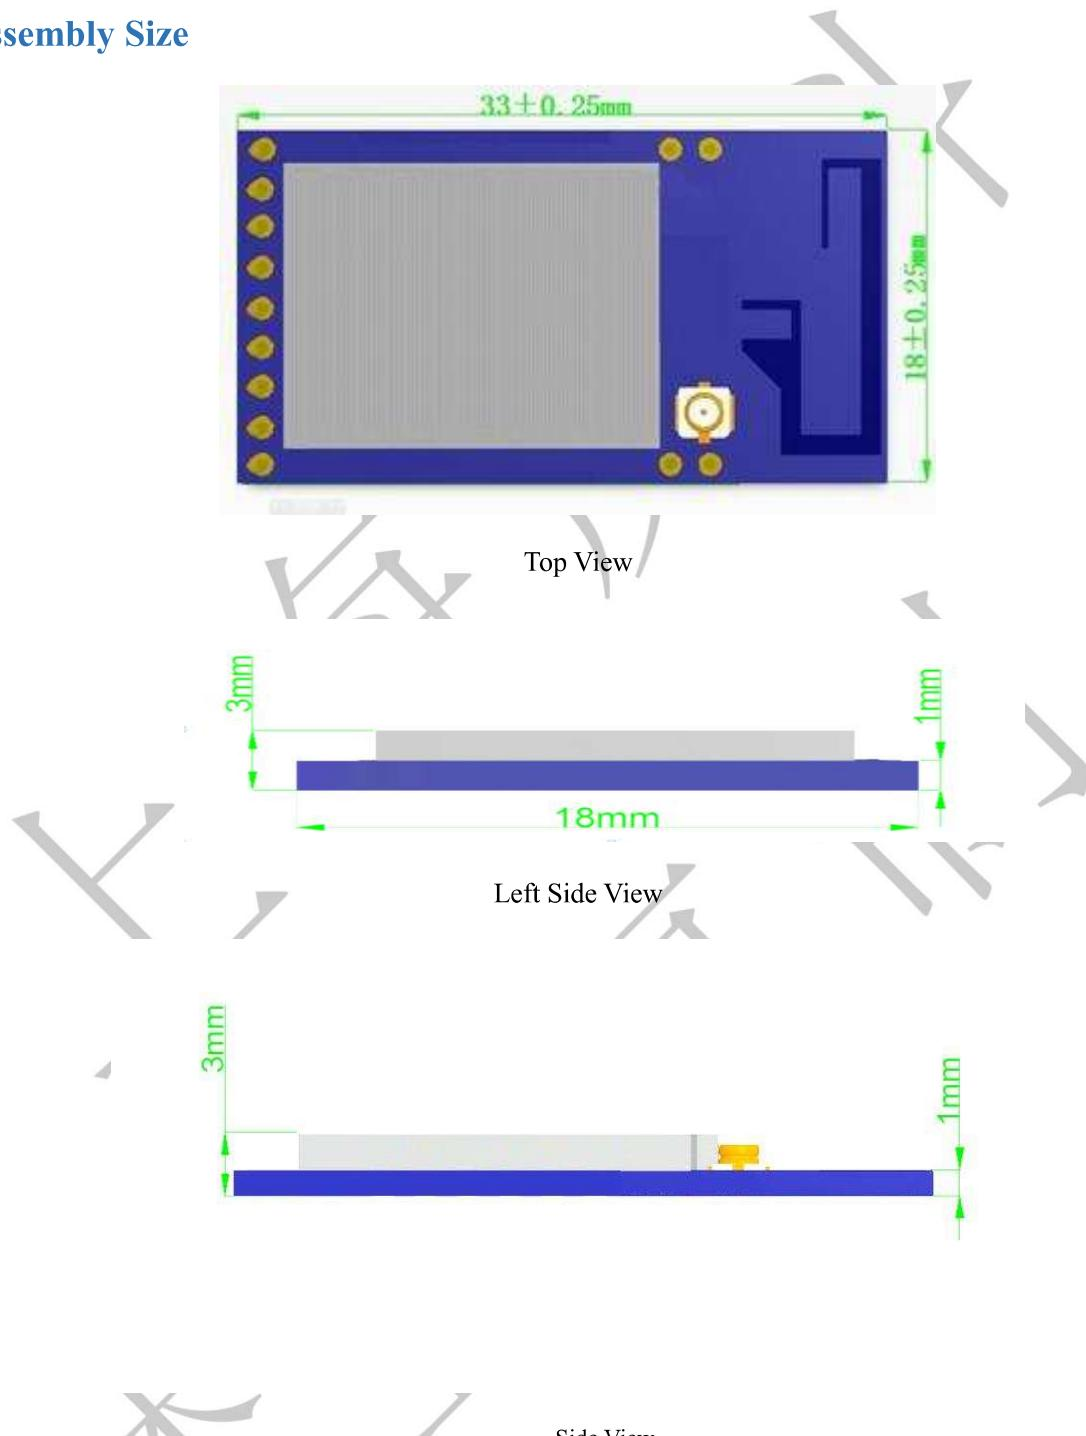

Figure 8 EMW3060 Side View (Unit: mm)
- (1) Cabinet type oven
- (2) Anti-static and high thermos tolerant tray
- (3) Anti-static and high thermos tolerant gloves
- Conditions of product storage (Storage environment is shown in figure 8):